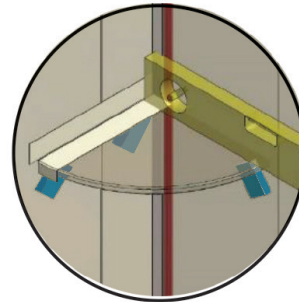

FIG 23.
- Place shelf in position and check for level. Optional - apply masking tape to shelf/wall (FIG 23).